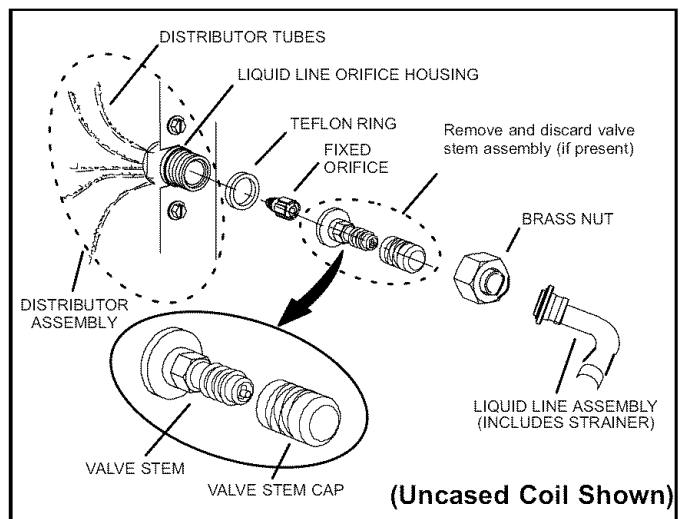

Figure 19. Typical Fixed Orifice Removal
4. Remove and discard fixed orifice, valve stem assembly if present and Teflon washer as illustrated in figure 19.